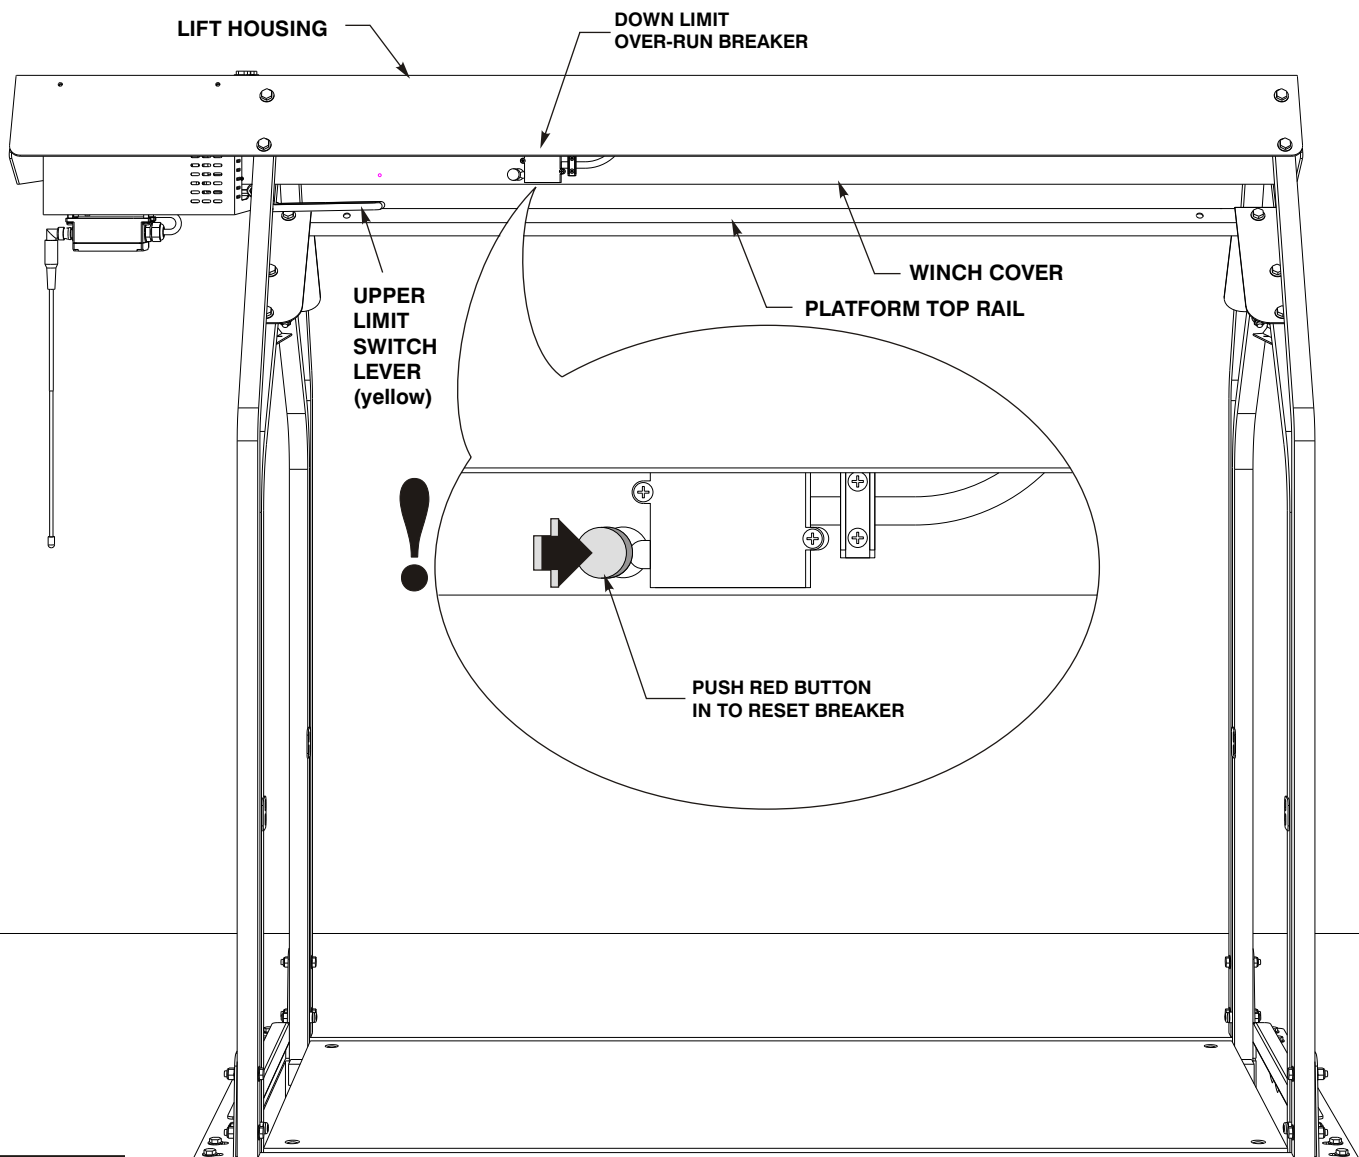

Fig. 21
13.6. IF YOUR LIFT WILL NOT GO DOWN: If your lift went down and back up, but now will not go back down again, check the "down limit over-run breaker" on the side of the winch cover (see Fig. 21). Push straight in (firmly) on the red button. Now try to run the lift platform in the down direction. If it runs down, it means that your down limit switch failed to stop the lift motor when the platform reached the floor. When this occurs, the **down limit over-run breaker** is tripped to prevent the cables from being wound up backwards and possible damage to your lift. **Do not continue to use the lift until this malfunction has been corrected!** The cause for this problem is that the down limit switch is either defective or not being activated. In order to be activated, the switch must feel a release of tension in the cables (slack) when the platform lands on the downstairs floor. If during installation, the cables were not attached with the platform sitting directly on the floor, your platform can't come to rest on downstairs floor, so the cables don't get slack to trigger the down limit switch. When this happens the over-run breaker is triggered to prevent back-winding the cables. Call your installer or BPG for assistance in resolving this problem.
A. When the platform is raised all the way up and lifts the (yellow) upper limit switch lever (see Fig. 21 - platform top rail must not hit the winch cover);